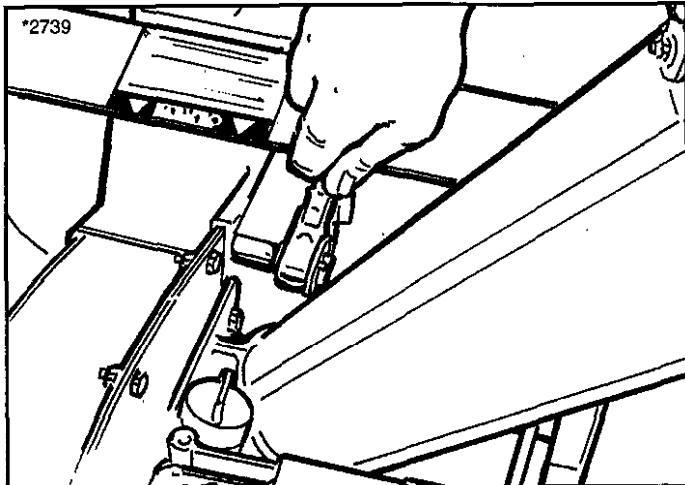

Figure 35. Remove Discharge Tube Hex Head Cap Screw And Hex Nut
9. Using a 1/2" socket wrench and 1/2" box wrench, remove the hex head cap screw and hex nut securing the discharge tube to the top brace (Figure 35).